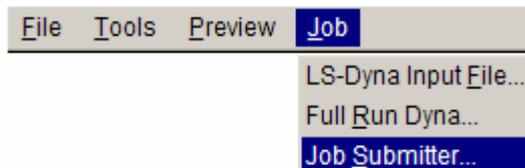

Figure 4.25 Job menu
2. Click **Job→Job Submitter...** in the menu bar. See Figure 4.25.